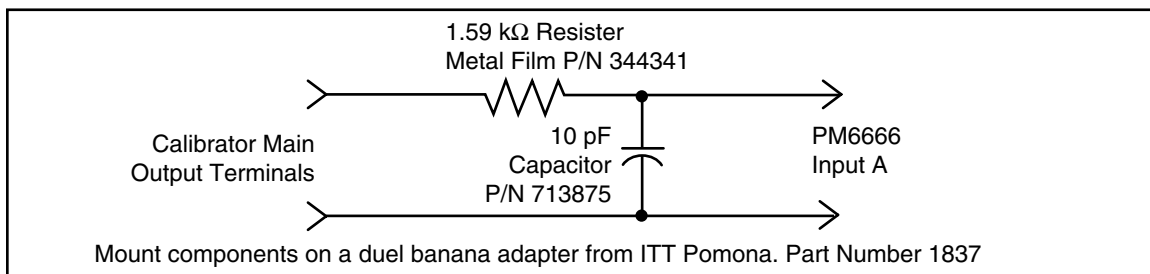

Figure 3-10. 1 MHz Low Pass Filter
3. Connect the equipment as shown in Figure 3-10 using the L&N 0.1Ω resistor.
This test requires the use of a frequency counter. Philips model PM6669 is recommended. Use Table 3-22 for the test record. When using Philips Model PM 6666, it is recommended to use a 1 MHz Low Pass Filter as shown in Figure 3-10. Refer to Table 3-15, Minimum Use Requirements, for substitution information.